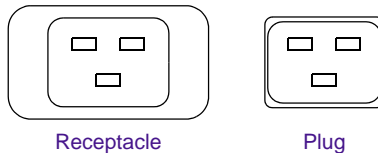

Figure 4-3 IEC C-20 Style Plug and Receptacle
- **Worldwide requirements:** The UPS ships with a replaceable power cord and the male plug is an IEC C-20 style. The power cord and plug are UL listed and CSA certified. Figure 4-3 shows the plug.